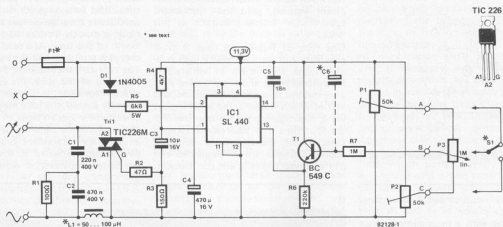
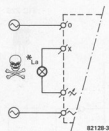

Figure 1. The dimmer control is designed around the SL 440 IC which is a phase angle controller from Plessey. Presets P1 and P2 adjust the control range limits.
Figure 3. How to connect filament lamps to the dimmer.
5. Remove C11, R29 and R30. Mount a wire link as shown in figure 3. Replace R31 by a resistor having a value of 33 k.
Figure 1 shows the circuit diagram of the dimmer. Normally speaking, an RC network would be used in combination with a diac to control the triac (Tri1). Here however, an IC specifically designed for the purpose, the SL 440 from Plessey, has been included to control the phase cut-off angle. The IC has the advantage that it enables the phase to be controlled during practically the entire half cycle of the mains voltage. This means that the power can be adjusted from roughly zero to the maximum level.
Filament lamps may be connected directly to the dimmer via the connections shown in figure 3. The current through a cold lamp filament may be 10...25 times higher than the normal rate, so the fuse (F1 in figure 1) must be able to handle this. A practical guideline is to reckon with 2 or 3 times the nominal current rating of the lamp (= watts divided by the mains voltage, times 2 or 3). A total lamp power of,